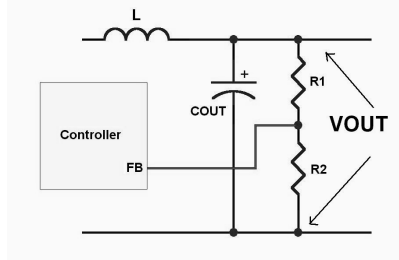

Figure 5. The voltage feedback
- The blue segment acts as a voltage feedbacker. As figure 5 shows,